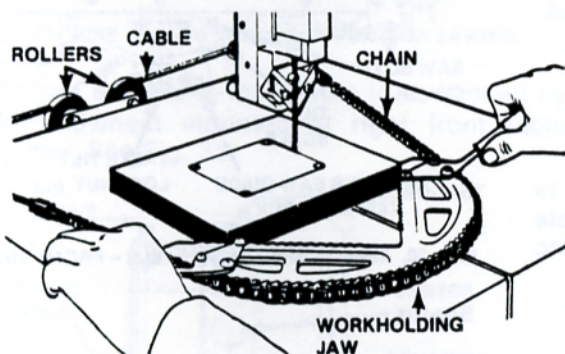

FIG. 25. ADJUSTABLE WORKHOLDING JAW.
- (1) Option used for off-hand and contour sawing. By looping a power feed chain around the workholding jaw, the operator can use the cable pulley system to guide stock along contour layout lines. See Fig. 25.